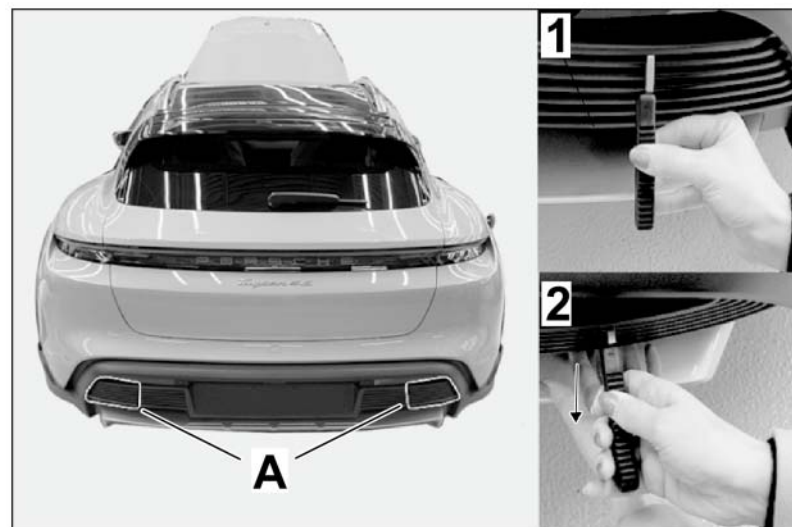

Figure 2
2. – Remove left and right covers ⇒ *Figure 2 -LHD vehicle -*. Insert tool ⇒ *Figure 2-1-* and then pull it backwards with a jerking movement while holding the cover securely with your other hand ⇒ *Figure 2-2-*.